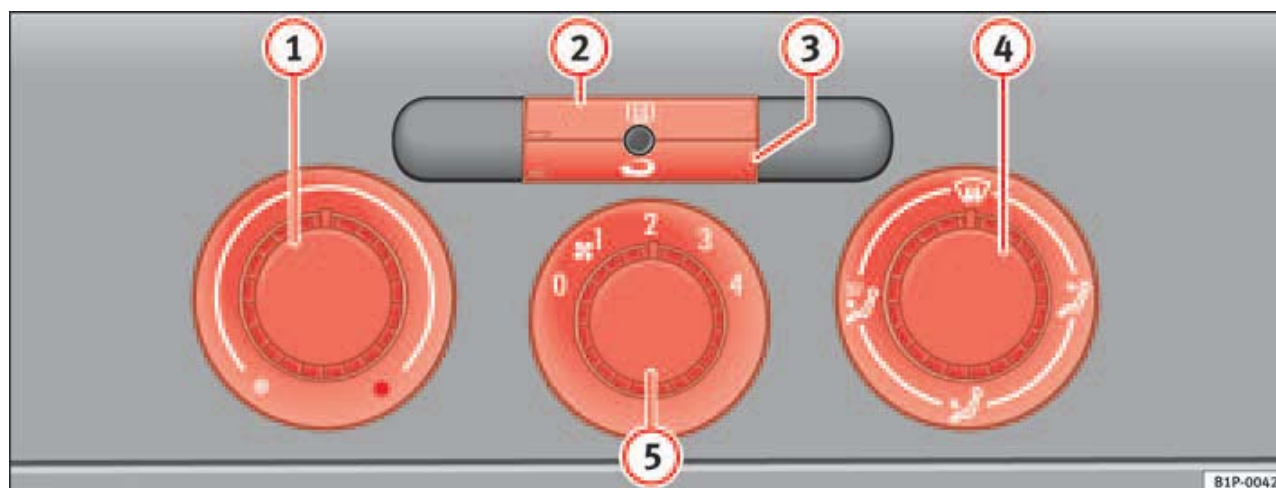

Fig. 106 On the dash panel: Heater controls
- Using the controls ⇒ fig. 106 ① and ④ and the control ⑤ you can set the temperature, air distribution and the airflow.
- To switch a function on or off, press the appropriate button ② or ③. When the function is activated, the display window in the lower left of the button is lit.